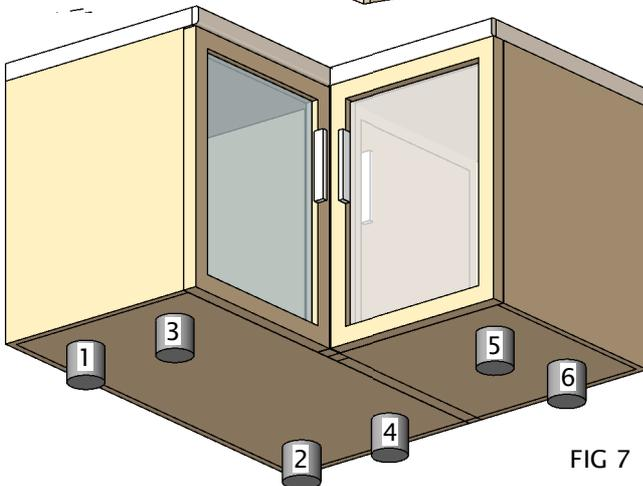

FIG 7
To Create Legs, adjust the parameter *LEGS VISIBILITY* on which controls & switches the visibility on of the Legs as shown in Fig 7
*LEGS VISIBILITY* is a Integer visibility parameter for each leg, so each number will switch on the visibility as shown in Fig 7
and the result will be Fig 7